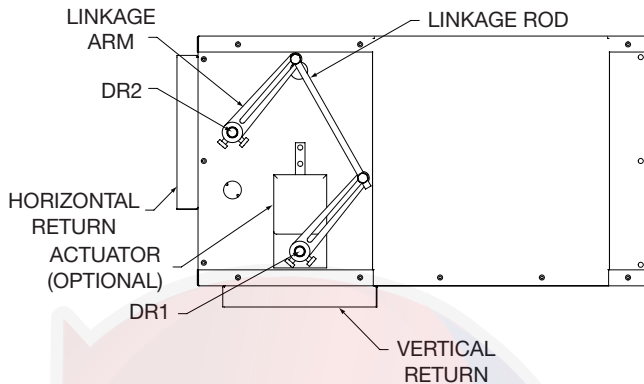

Fig. 42 — Linkage Assembly Front View (Sizes 00-03)
2. Attach actuator (optional item) to unit with actuator mounting hardware included with actuator. Actuator should be mounted on damper rod 1 (DR1) as shown in Fig. 42.
5. Place a linkage arm onto DR1 and DR2. See Fig. 42 and 43 for proper positioning. Ensure that swivel joints are fully extended to the end of the linkage arm and tighten.